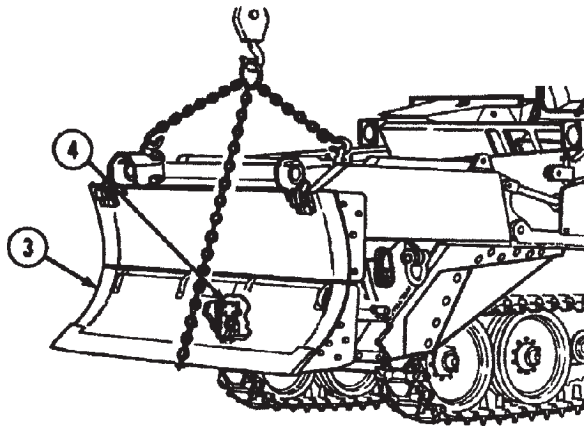

Figure 16. Removal of Dozer Blade.
Step 2 applies to Figure 16.
2. If dozer blade (3) has not been removed, connect a chain between lifting device and shackle (4) at back side of dozer blade (3). Tighten chain enough to remove slack.